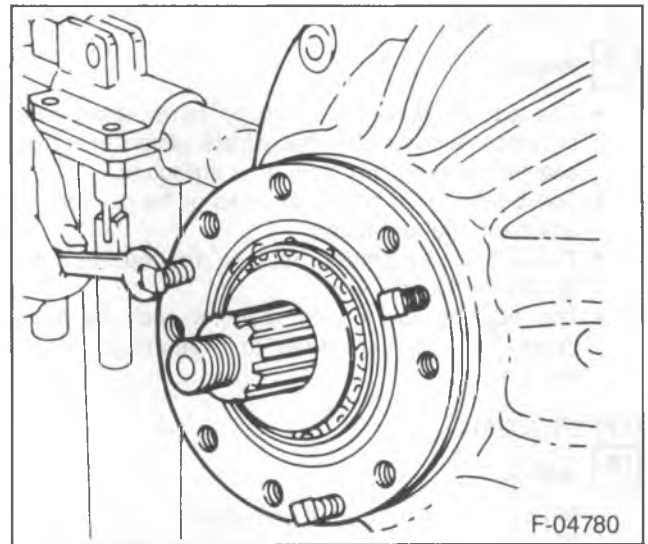
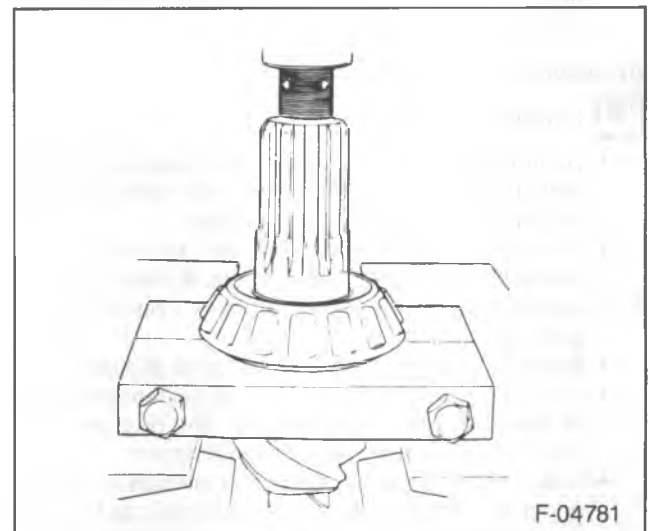

Figure 13—Removing the Pinion Cage
Figure 14—Removing the Pinion Inner Bearing
18. Pinion cage (54) from the carrier by using bolts in the puller holes of the cage. Thread the bolts in, to push the cage away from the carrier (figure 13).
19. Shim pack (50) from the cage.
20. Pinion gear (37) from the cage by pressing it out in an arbor press.
21. Pinion oil seal (58) from the pinion cage.
22. Outer bearing (57) from the cage.
23. Inner bearing (53) from the pinion using J 22912 and an arbor press (figure 14).
24. Pilot bearing retaining ring (51).
25. Pilot bearing (52) from the pinion gear (37) using J 22912.